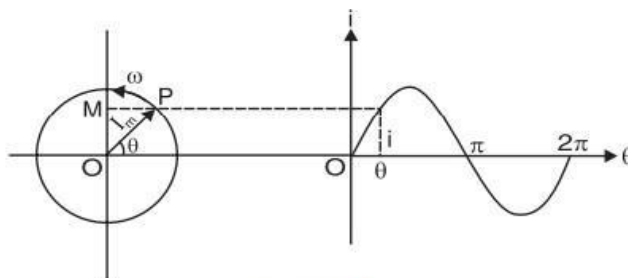

Fig. 11.47
Hence the projection of the phasor OP on the Y -axis at any instant gives the value of current at that instant. Thus when $\theta = 90^\circ$, the projection on Y -axis is $OP (= I_m)$ itself. That the value of current at this instant (*i.e.* at θ or $\omega t = 90^\circ$) is I_m can be readily established if we put $\theta = 90^\circ$ in the current equation. If we plot the projections of the phasor on the Y -axis *versus* its angular position point-by-point, a sinusoidal alternating current wave is generated as shown in Fig. 11.47. Thus the phasor represents the sine wave for every instant of time.
- (ii) The phasor representation enables us to quickly obtain the numerical values and, at the same time, have a picture before the eye of the events taking place in the circuit. Thus in the position of the phasor OP shown in Fig. 11.47, the instantaneous value is OM , the phase is θ and frequency is $\omega/2\pi$.